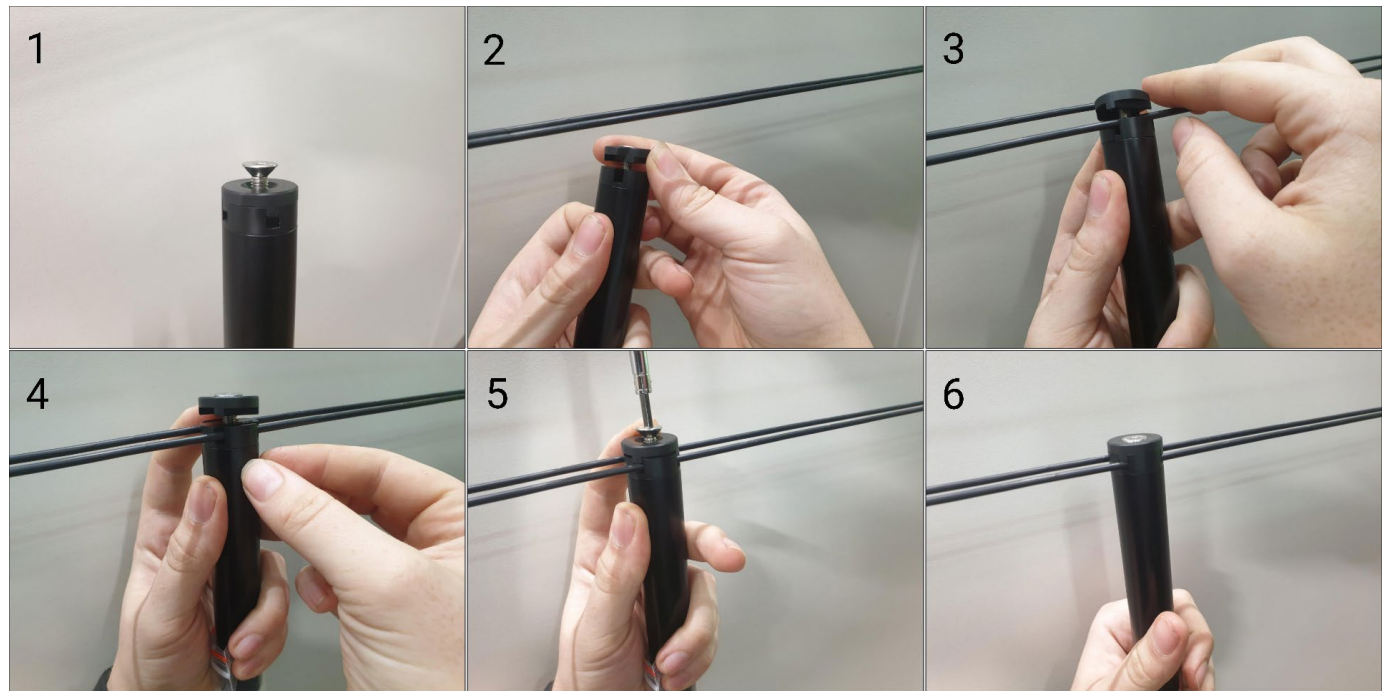

Fig 7, 1-6. Align both catenary cables within the two grooves at the top of the Air luminaire, securing the cap with the screw.
7. Air's cap comes supplied with its screw loosened (Fig 7-1) to allow easy alignment and connection of Air luminaires to the catenary cabling. Simply lift the cap then align the two cables within the two grooves on the luminaire so that the cables lie between the luminaire and its cap (Fig 7, 2-6). Secure the cap with an Allen key (Fig 7-5) and confirm the connection is secure on the cabling (Fig 7-6).